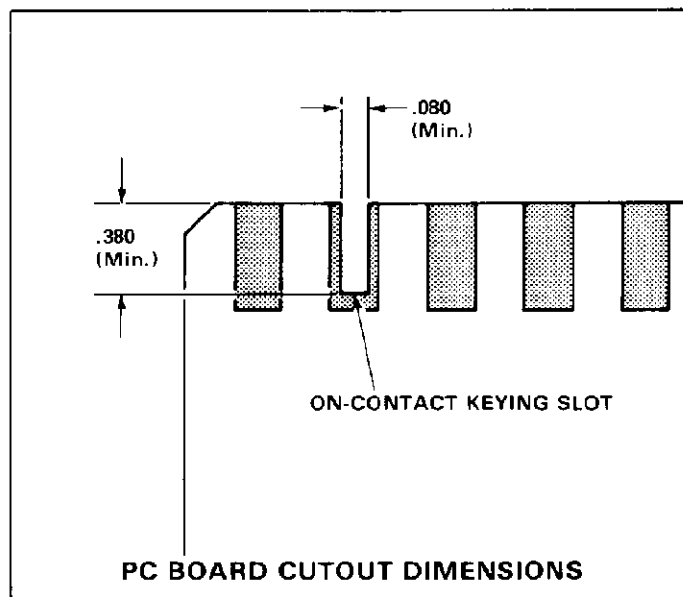

Fig. 2
2. BOARD PREPARATION (Figure 2)